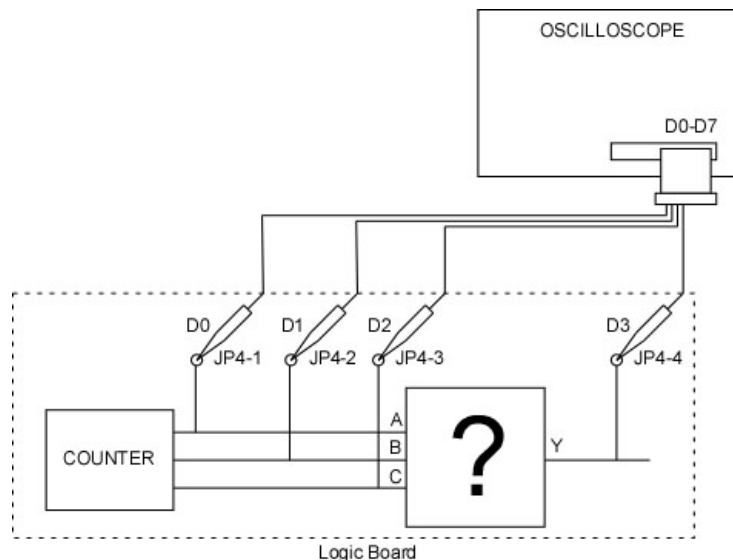

Figure 1-7 Setup for Determination of Logic Function
- 4) Attach probes leads D0, D1, and D2 to the inputs, JP4-1, JP4-2, and JP4-3 respectively, and probe lead D3 to the output, JP4-4, as shown below in Figure 1-7.